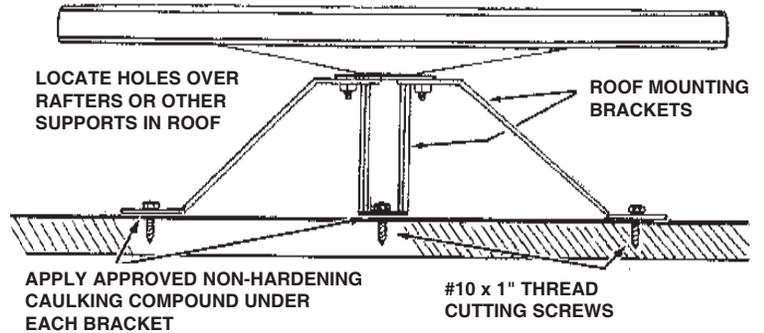

FIGURE 6
STEP 5. Drill six 1/8" pilot holes as shown in Figure 6. Apply approved sealant for your type of roof around holes under each bracket. Attach antenna to roof with #10 x 1" thread cutting screws.